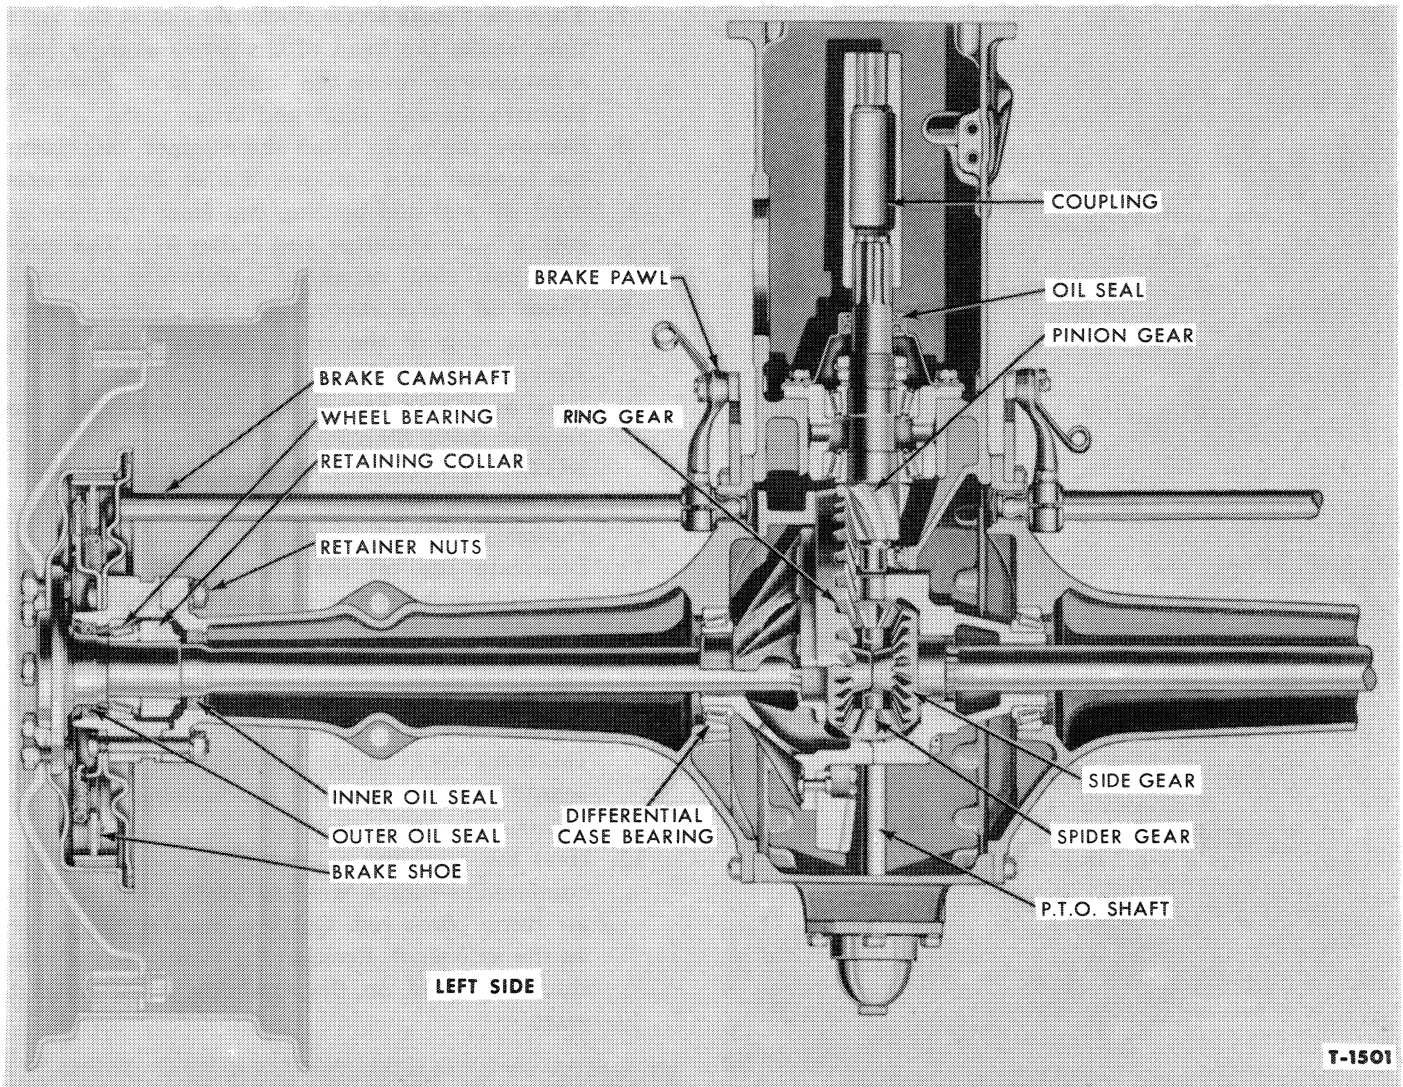

Figure 1—Rear Axle Used on General Purpose Tractors
A sectional top view of the rear axle and center housing is shown in Figure 1. Additional figures are used throughout the copy to illustrate some of the special tools required.
4. Remove the axle housing to bearing retainer housing nuts and lock washers, Figure 1.